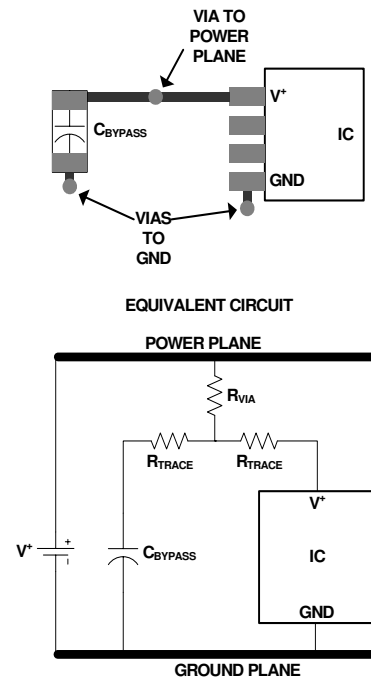
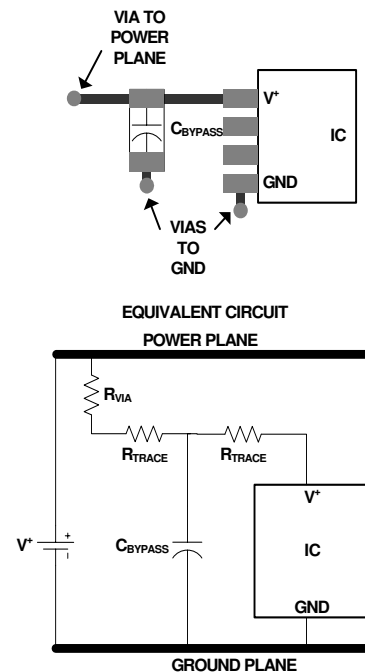

FIGURE 12. SUB-OPTIMAL BYPASS CAPACITOR LAYOUT
FIGURE 13. OPTIMAL (“T”) BYPASS CAPACITOR LAYOUT
- Ideally each supply should be bypassed to ground with a  $0.1\mu\text{F}$  capacitor. Minimize trace length and vias to minimize inductance and maximize noise rejection. Figure 12 demonstrates a common but non-ideal PCB layout and its equivalent circuit. The additional trace resistance between the bypass capacitor and the power supply/IC reduces its effectiveness. Figure 13 demonstrates a better layout. In this case there is still series trace resistance (it is impossible to completely eliminate it), but now it is being put to good use, as part of a “T” filter, attenuating supply noise before it gets to the IC, and reducing the amount of IC-generated noise that gets
injected into the supply. Follow the good supply bypassing rules shown in Figure 13 to the extent possible.